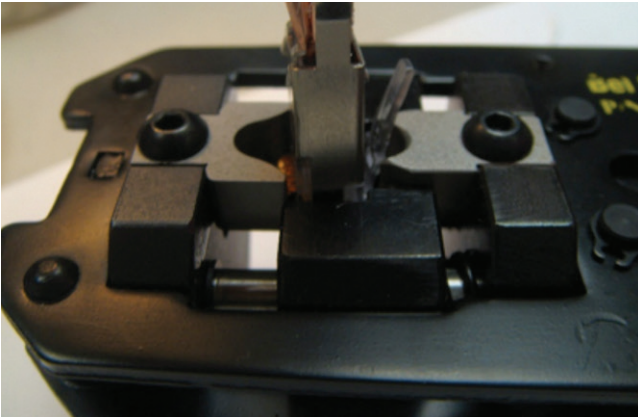

Figure 26: Crimping the connector
17. With the release tab facing the crimper handles, insert the connector into the Bel Stewart crimpers and crimp the connector (Figures 26 and 27).